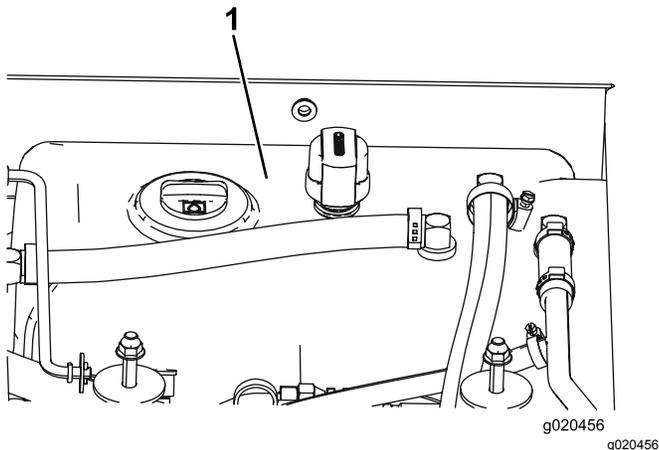

Figure 97
4. Fill the reservoir (Figure 97) with hydraulic fluid; refer to Checking the Hydraulic Fluid (page 66).